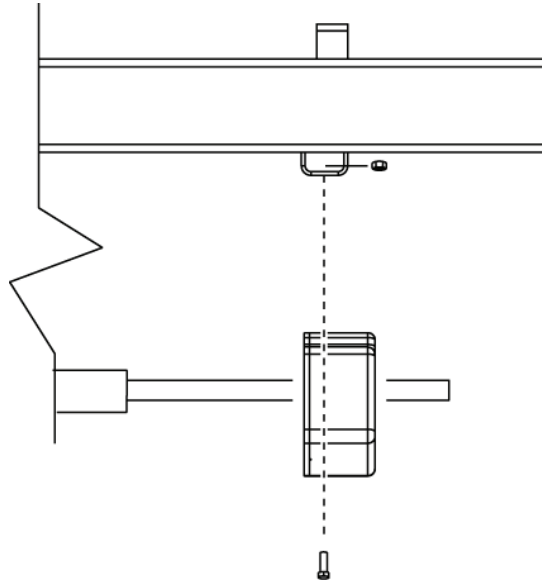

Figure 9
* Using (2) 1/4-20 X 1/2 HHCS and (2) 1/4-20 Flanged Lock Nuts attach the overhead switch assembly to the overhead beam as shown in Figure 9.